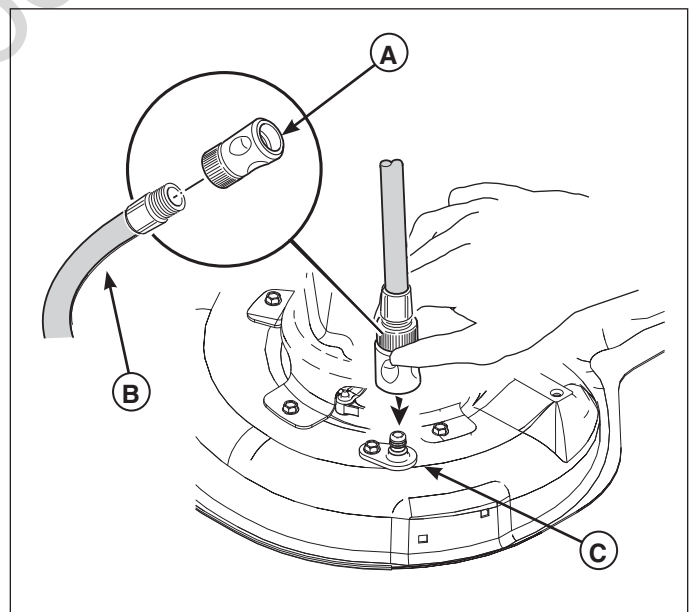

Figure 17
2. Attach the quick disconnect (A, Figure 17) to garden hose (B) and connect to washout port (C) on mower deck.